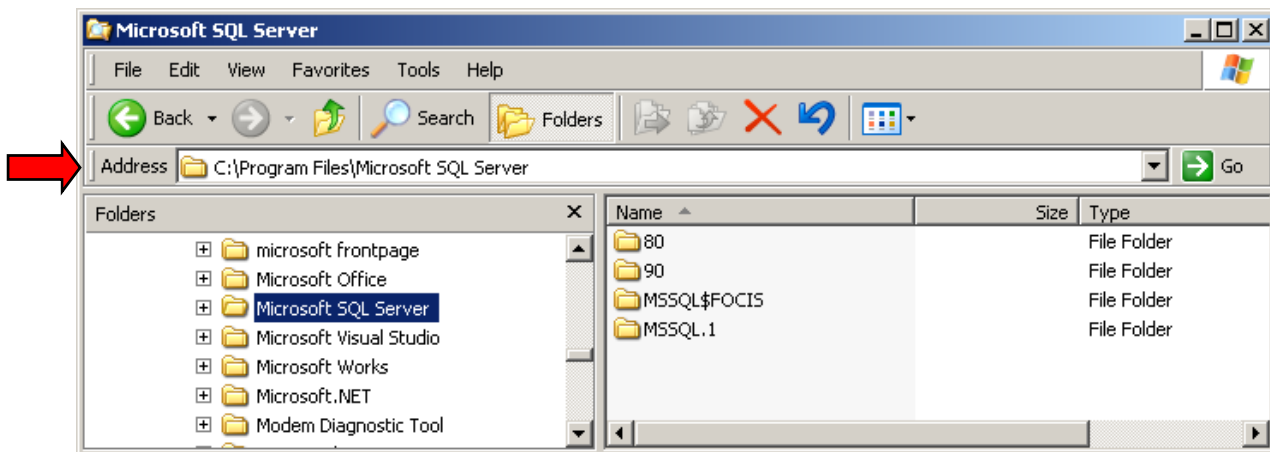

Figure II-37. Microsoft SQL Server Directory
- i. Delete the **C:\Program Files\Microsoft SQL Server** directory. Use the Windows Explorer, as shown in Figure II-37, to find and remove the Microsoft SQL Server directory and subdirectories.